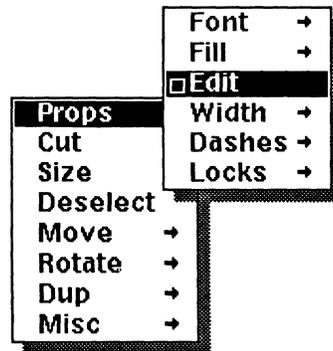

Figure 28-6. *Diagramming Object Selected* popup menu
- ✓ Execute the **Edit** command on the **Props** submenu of the **Diagramming Object Selected** popup menu (Figure 28-6).